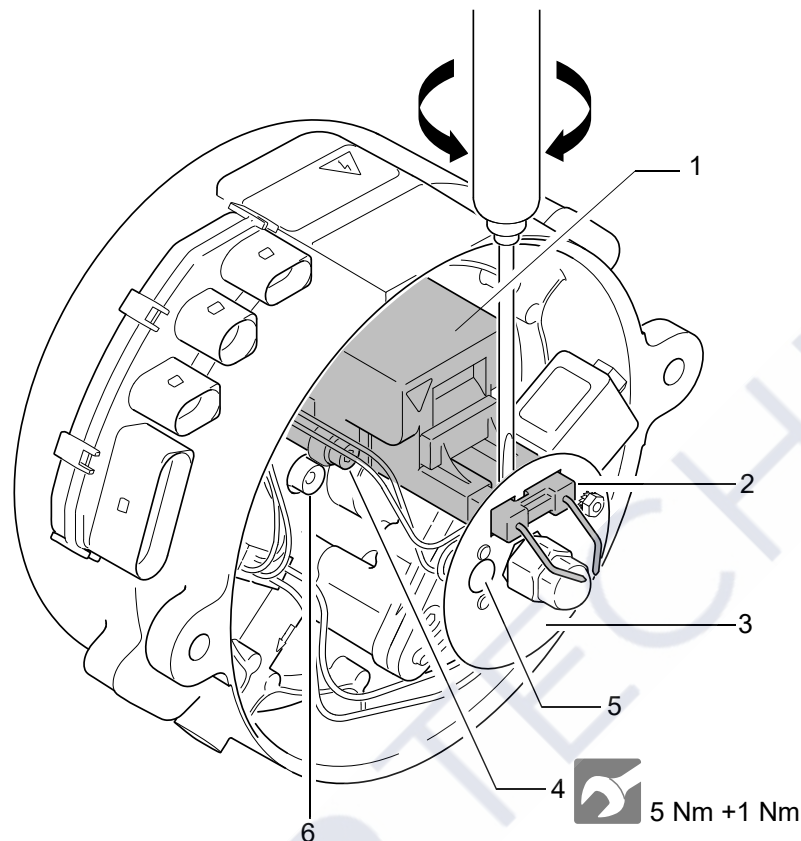
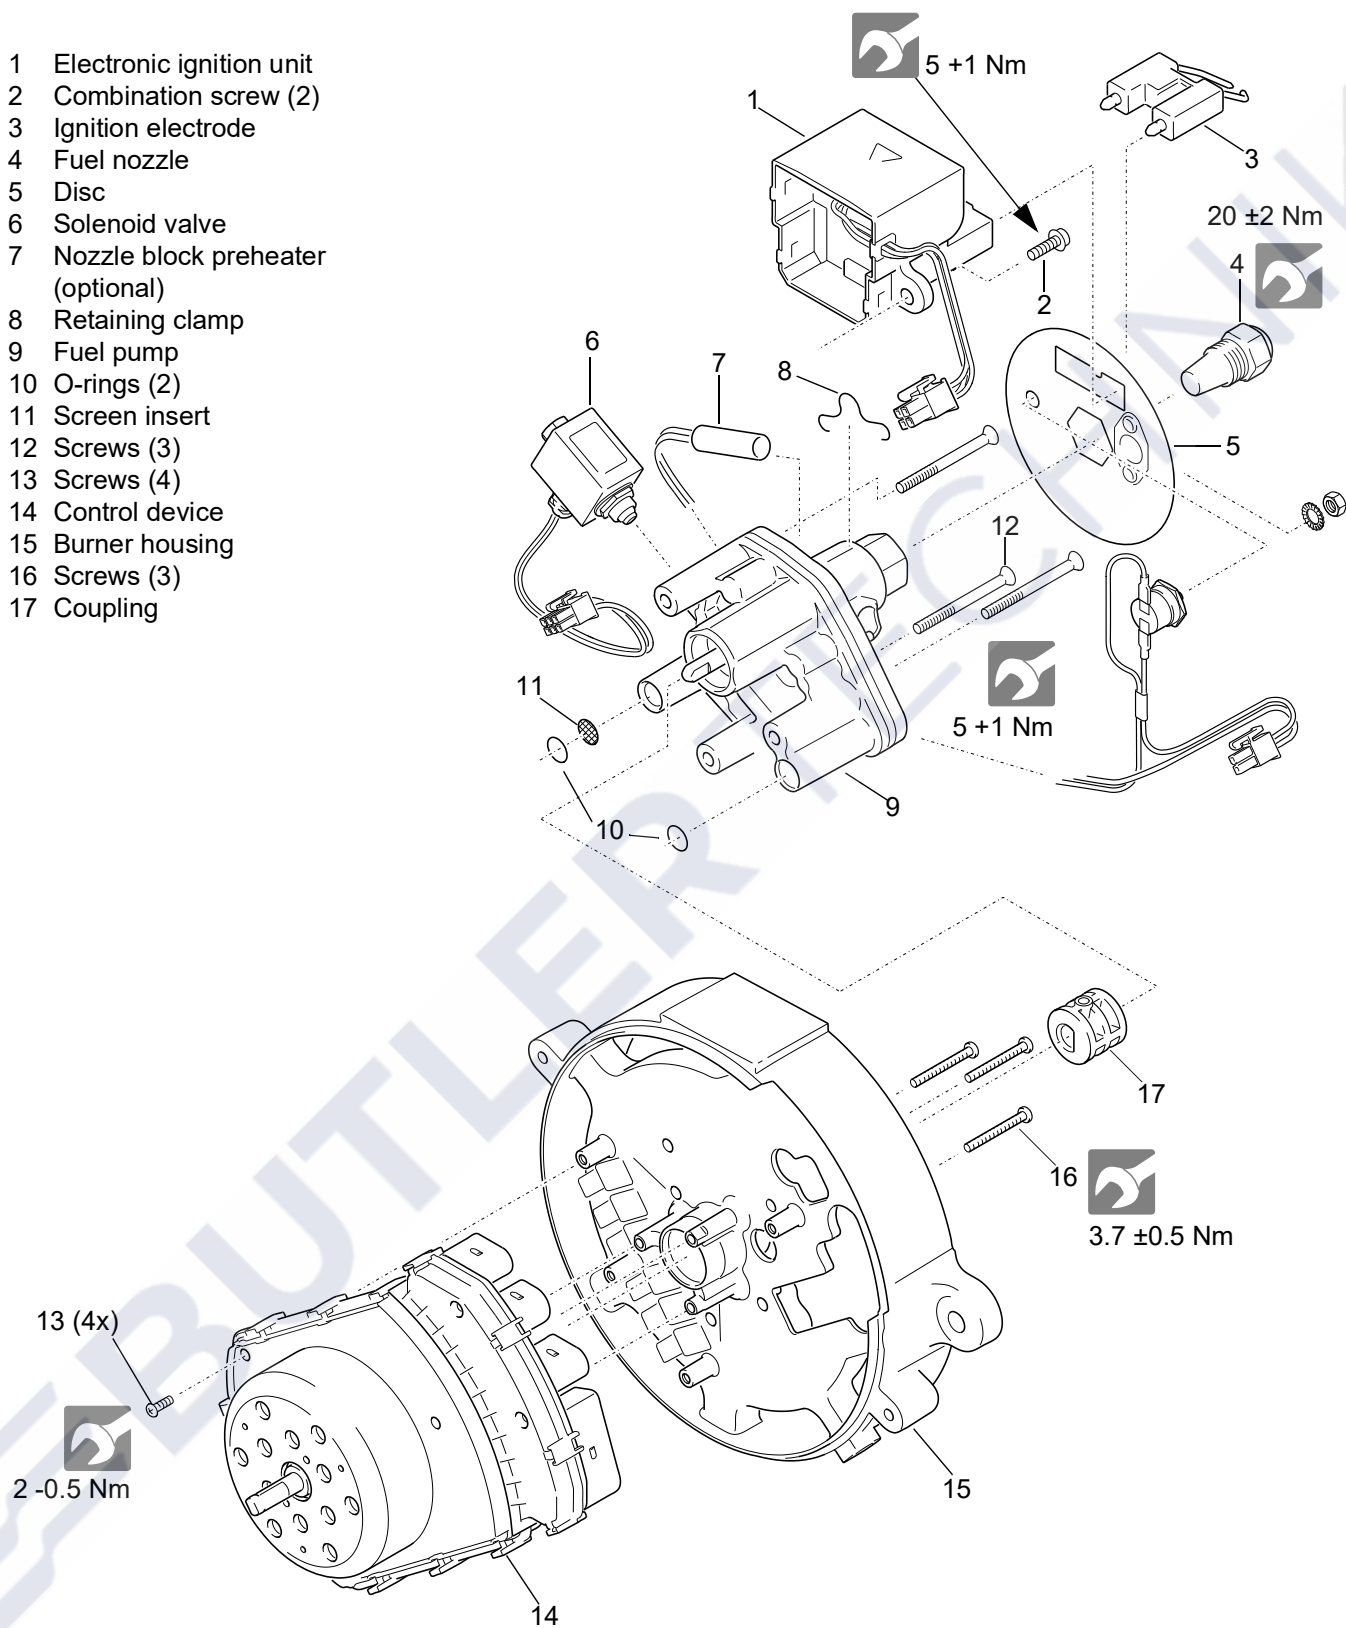

Fig. 804 Electronic ignition unit / ignition electrode removal and installation
Fig. 805 Components removal and installation
2. Lift off ignition electrode from the electronic ignition unit by twisting a screwdriver sideways (see Fig. 804) and remove it.
3. Remove the disc (3) from the nozzle holder.
5. Remove the combination screws (4).
6. Pull electronic ignition unit (1) off and remove it.
1. Bring electronic ignition unit (1, Fig. 804) into installation position and secure with combination screws (4).
3. Fit the disc (3) onto the nozzle holder of the fuel pump (9, Fig. 805) and align it so, the ignition electrode (2, Fig. 804) may inserted into the electronic ignition unit.
4. Insert ignition electrode (2, Fig. 804) into the electronic ignition unit.
- 4 Screws (2)
2. If necessary remove the coupling (17, Fig. 805) from the shaft of the burner motor.
4. Remove the 4 screws (13), securing the control device to the burner housing.
5. Remove the 3 screws (16), securing the burner motor to the burner housing.
6. Remove the control device (14) from the burner housing (15).
1. Position the control device (14, Fig. 805) onto the burner housing.
2. Screw in the 3 screws (16), securing the burner motor to the burner housing and tighten them.
3. Install the 4 screws (13), securing the control device to the burner housing and tighten them.
5. Put the coupling (17, Fig. 805) onto the shaft of the burner motor.
2. Remove disc (3, Fig. 804).
5. Remove and discard the 3 screws (12, Fig. 805), securing the fuel pump to the burner housing.
6. Remove the fuel pump (9) incl. solenoid valve (6).
7. Remove and discard the O-rings (10) and the screen insert (11).
8. If necessary remove the solenoid valve (6) from the fuel pump (9) (see 8.9).
- 2 Combination screw (2)
1. If necessary, install solenoid valve (6, Fig. 805) onto the fuel pump (9) (siehe 8.9).
2. Install new O-rings (10) and a new screen insert (11) into the fuel pump (9).
3. Align the fuel pump (9) with the burner housing (15) and bring it into installation position. Before doing this, align if necessary the coupling (17) by rotating it on the burner motor shaft.
4. Mount the fuel pump (9) using 3 new screws (12, with coated threads) and tighten them.
5. Reconnect the solenoid valve (6) plug to the control device (14).
7. Install disc (3, Fig. 804).
2. Lift off ignition electrode (3, Fig. 805) from the electronic ignition unit by twisting a screwdriver sideways (see Fig. 804) and remove it.
3. Remove disc (5, Fig. 805).